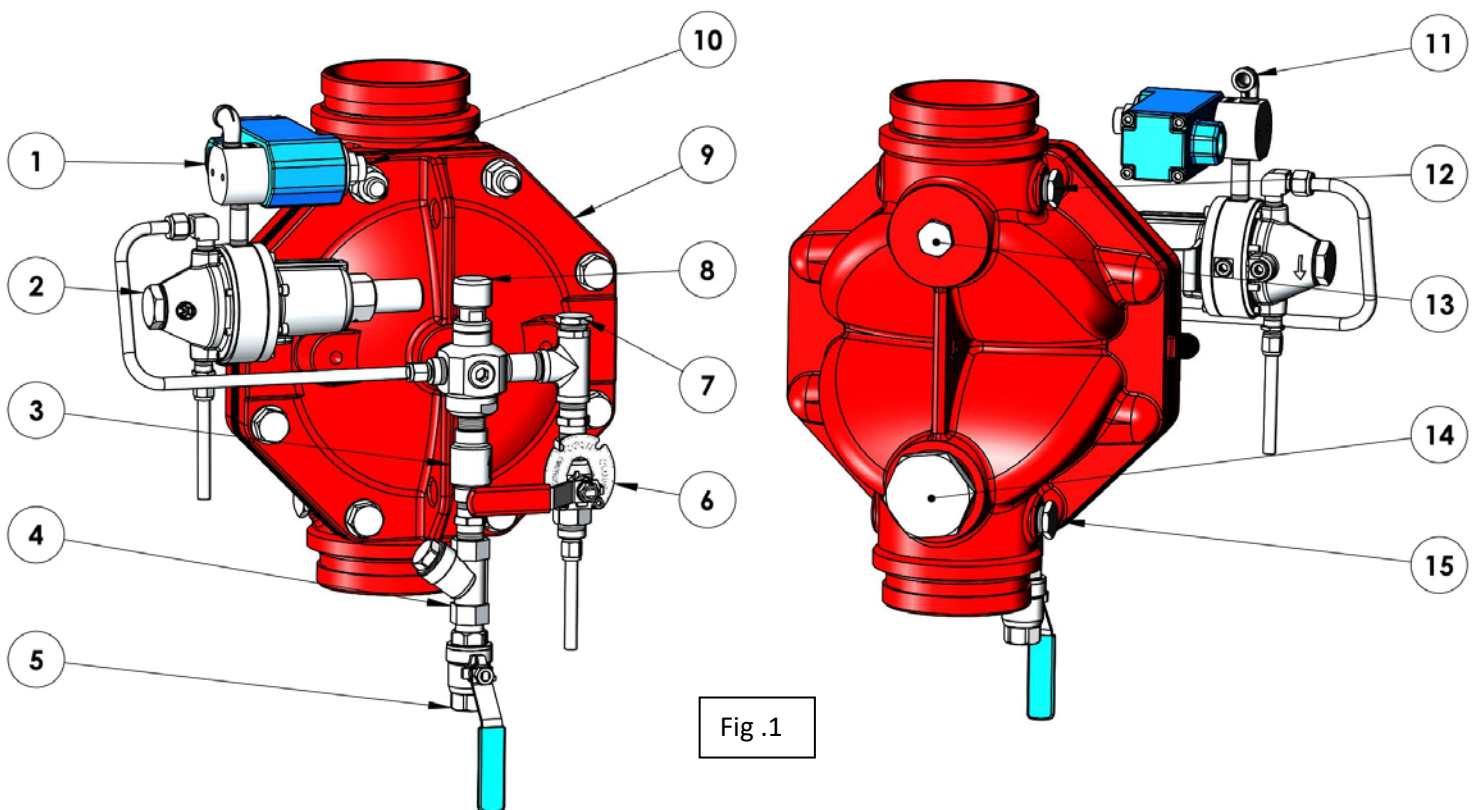

Fig .1
## **Operation** (Reference Figure 1)
- (5) – Trim pressure supply connection - ½" NPT female.
- (11) – Dry pilot line & ASK supply line to the PAV-2 actuator – ¼" NPT female (temporary plugged).
- (12) – list 1 figure 1
- (13) – list 1 figure 1
- (14) – list 2 figure 1
- (15) – list 2 figure 1
- (21) –Emergency valve drain tube – 3/8" tube.
6. Close downstream separation butterfly valve (**11**) and open the FDV's downstream drain valve if equipped or unscrew the port's plug (**13 figure 1**). The Upstream drain remains plugged, or its valve (if equipped) is close.
9. Observe the downstream drain port (**13 figure 1**): there should be no leakage or dripping.
2. Make sure that the downstream drain valve (**13 figure 1**) is open.
5. **Actuated by the Heat/Smoke detection sensors:** initiate a fault alarm for the Heat/Smoke detection sensors at the control board. The solenoid valve (**7**) needs to be energized and the pressurized air in the pilot pipeline need to be vented through the PAV-2 vent port (**11 figure 1**)